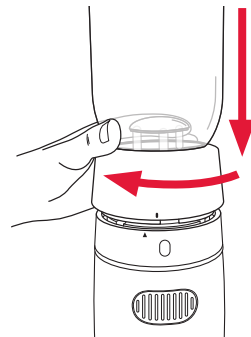

Figure 3
4. To lock the collar and bean hopper into place, hold the collar and turn it clockwise until the 'UNLOCK' button releases. See figure 3.